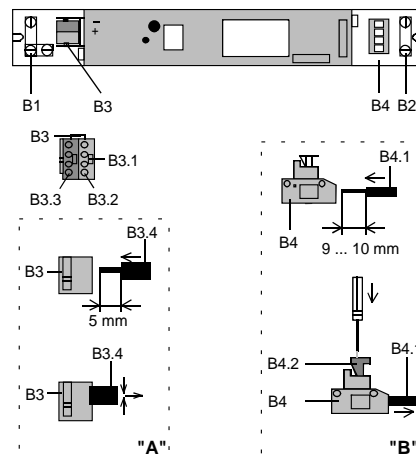

Figure 3: Connections
Slipping off bus connection blocks (Figure 3)
Slipping on bus connection blocks (Figure 3)
Connecting bus cables (Figure 3 "A")
- The sheathing of the bus cable must be attached to the casing of the built-in device via the conductor fixing (B1). It is not a pull relief! (Figure 3).
Disconnecting bus cables (Figure 3 "A")
Connecting load and control circuits (Figure 3 "B")
- The sheathing of the cable must be attached to the casing of the built-in device via the conductor fixing (B2, Figure 3). Mounting the conductor fixing: Both parts have to be mounted simultaneously one at the top of the other.
Disconnecting load circuits (Figure 3 "B")